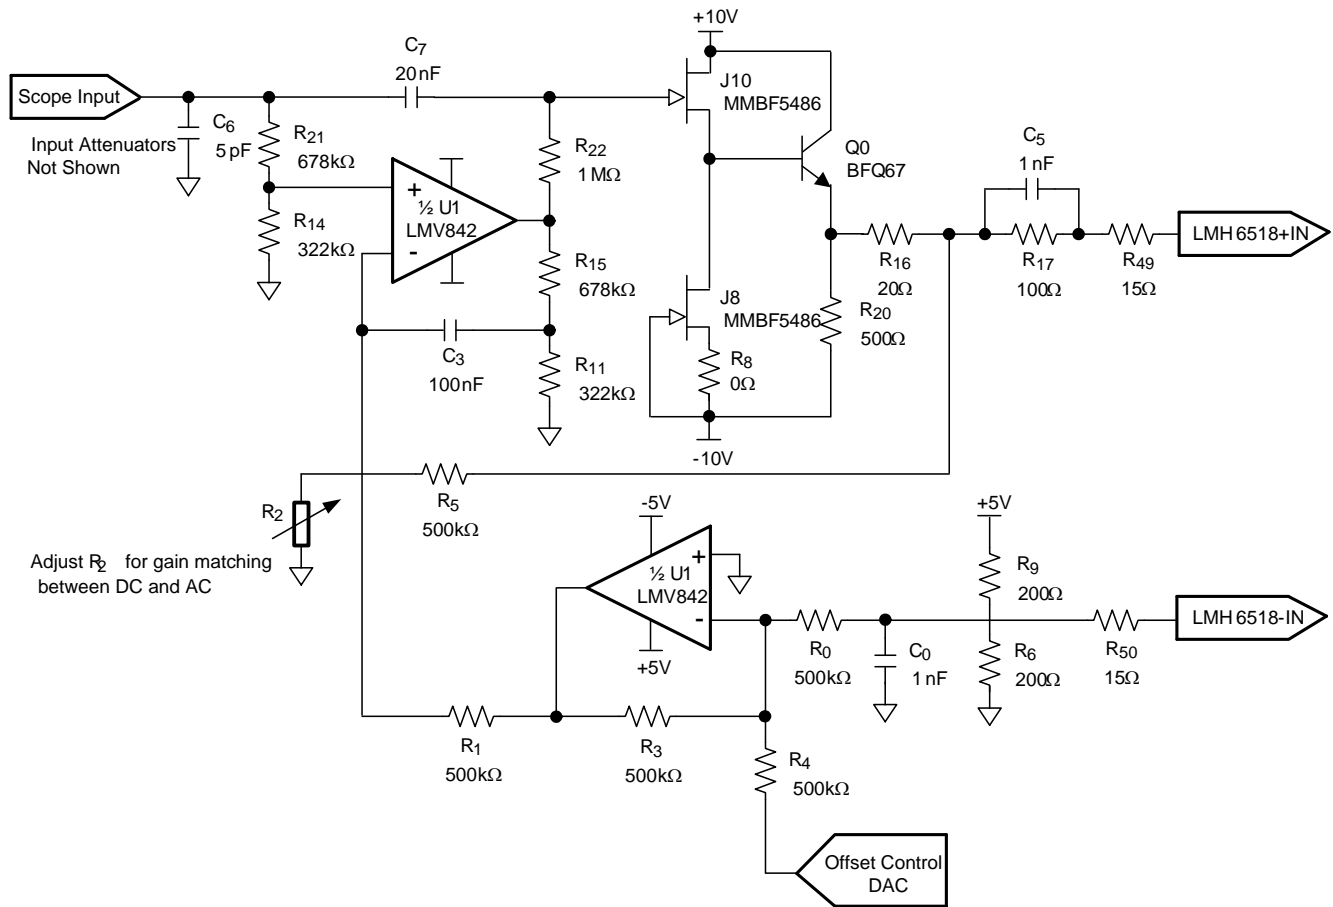
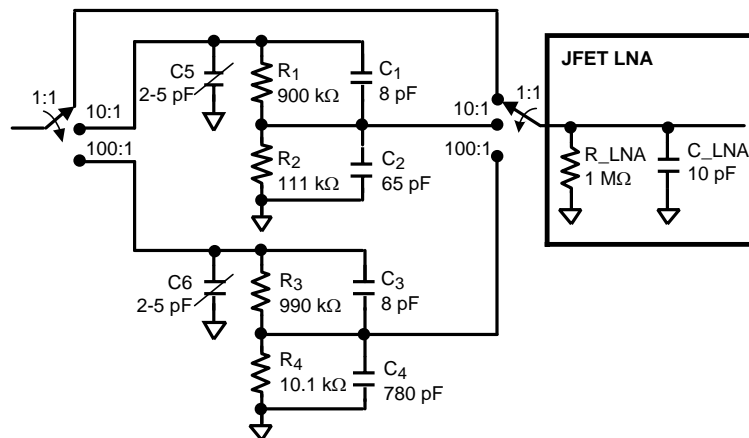

Figure 68. JFET LNA Implementation
Figure 69. Front End Attenuator for JFET LNA Implementation
- Low noise ($<0.98 \text{ nV}/\sqrt{\text{Hz}}$) to reduce the impact on the LMH6518 noise figure. Note that Figure 58 does not show the necessary capacitors across the resistors in the front-end attenuators (see Figure 69). These capacitors provide frequency response compensation and limit the noise contribution from the resistors so that they do not impact the signal path noise. For more information about front-end attenuator design, including frequency compensation, see Related Documentation for additional resources.
Figure 68 shows the schematic drawing for a possible implementation of the LNA buffer.
With the values in Figure 68 → R₂ approximately 452 kΩ.
Figure 69 shows a front-end attenuator designed to work with Figure 68.